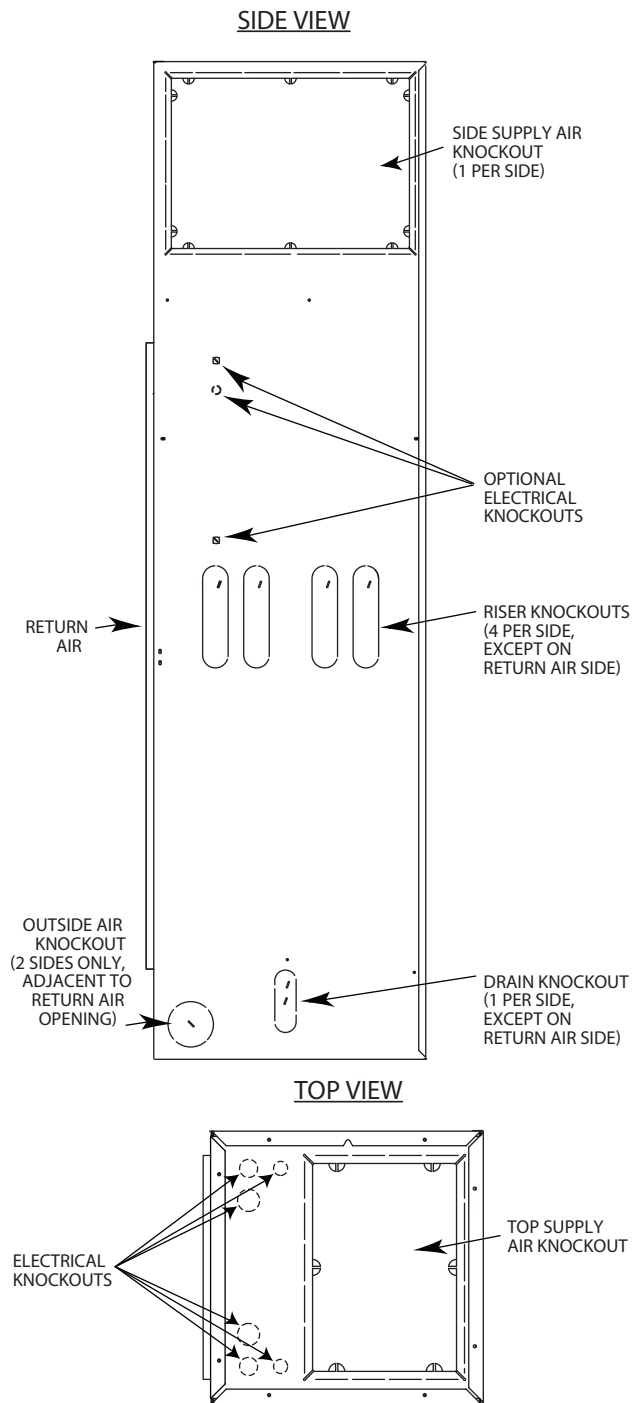

Fig. 17 — Locate 42SU Unit Knockouts
1. Three sides of each universal stack unit have four supply and return riser knockouts along the center and one drain knockout near the lower part of the unit (see Fig. 17). Identify whether your application uses a 2-pipe or 4-pipe configuration.
Each side of the unit has one supply air knockout as well as a supply air knockout on the top of the unit (see Fig. 17).